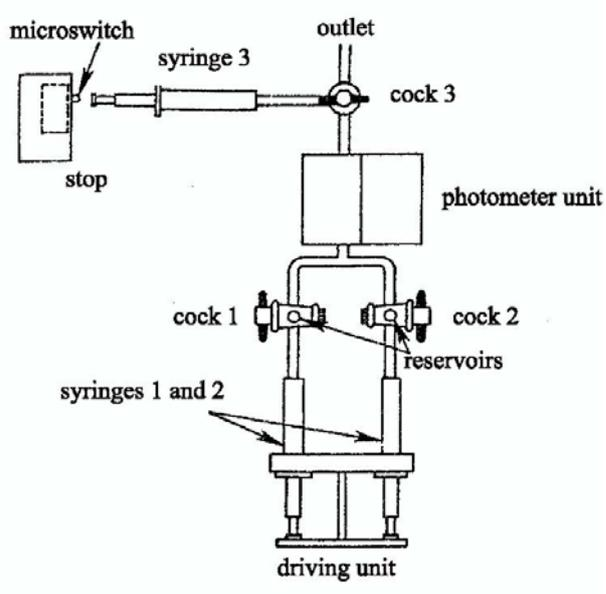

Fig. 1
- The experimental setup used in this work is shown in Fig. 1. Fill the reservoirs with distilled water. Turn the cocks 1 and 2 to connect the reservoirs with the syringes 1 and 2. Slowly pull the driving unit back to fill the syringes with water. You may need to move the driving unit back and forth to remove air bubbles. Turn the cock 3 to connect the flow cell, which is inside the photometer unit, with the syringe 3. Turn the cocks 1 and 2 to connect the syringes 1 and 2 to the flow cell. Push the driving unit until the syringe 3 hits the microswitch. Check whether the trigger switched on the storage oscilloscope. Turn the cock 3 to connect the syringe 3 to the outlet. Check if the outlet pipe is inserted into the waste bottle. Empty the syringe 3 gently. Turn the cocks 1 and 2 to connect the reservoirs with the syringes 1 and 2. Turn the cock 3 back to connect the flow cell with the syringe 3. Repeat the whole set several times to wash the system and become familiar with the